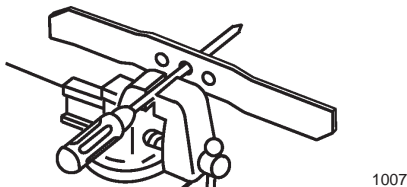

Figure 32
1. Check the balance of the blade by placing the center hole of the blade over a nail or screwdriver shank clamped horizontally in a vise (Fig. 32).